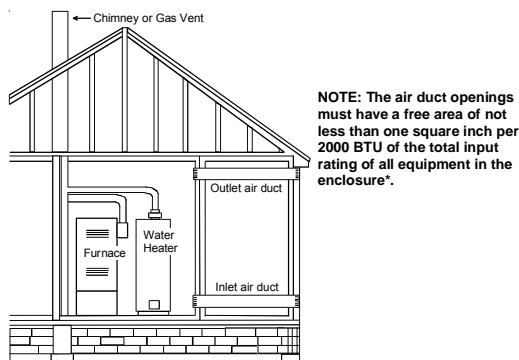

Figure A.9.3.3.1(2) All Combustion Air From Outdoors through Horizontal Ducts.
- 9.3.3.2* One Permanent Opening Method.** One permanent openings, commencing within 12 in. (300 mm) of the top of the enclosure, shall be provided. The appliance shall have clearances of at least 1 in. (25 mm) from the sides and back and 6 in. (150 mm) from the front of the appliance. The opening shall directly communicate with the outdoors or shall communicate through a vertical or horizontal duct to the outdoors or spaces that freely communicate with the outdoors (see Figure A.9.3.3.2) and shall have a minimum free area of the following: